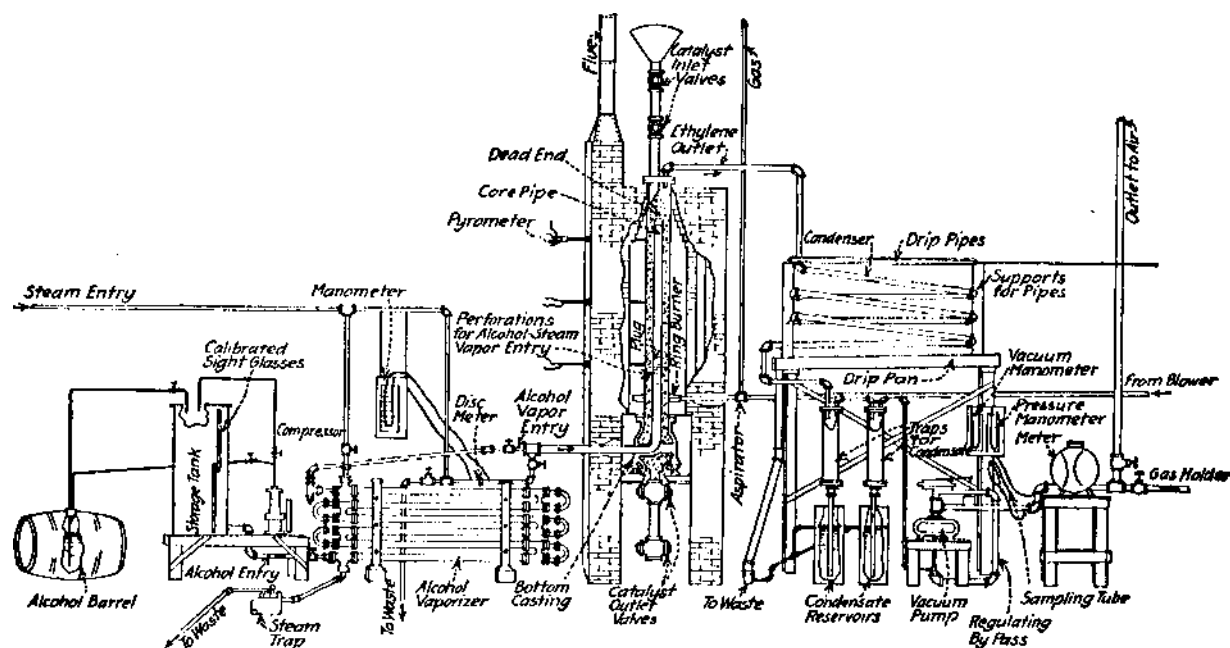

FIG. 17.—Experimental Installation for the Production of Ethylene by Kaolin Procedure.
15. From your study of Fig. 17 outline the *essential* steps in the production of ethylene from alcohol.